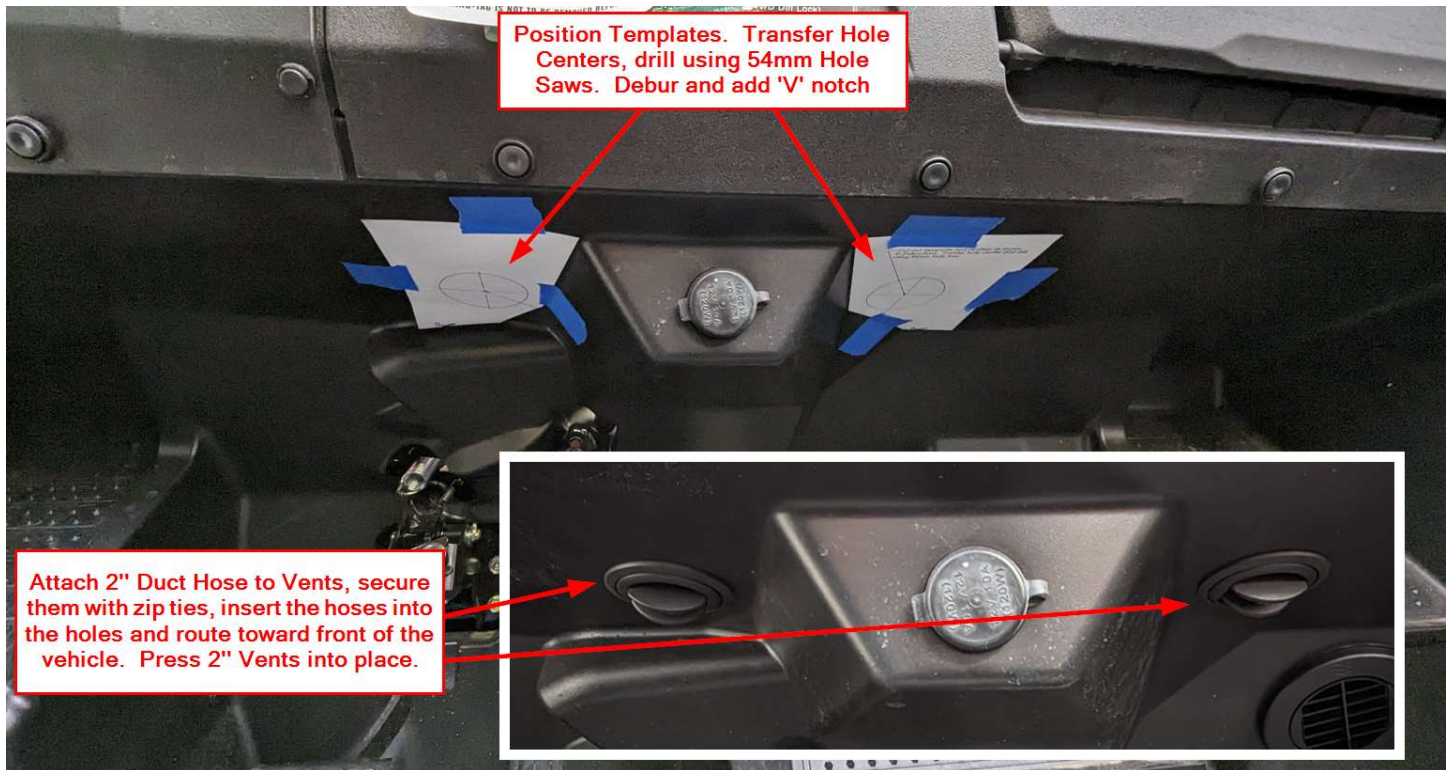
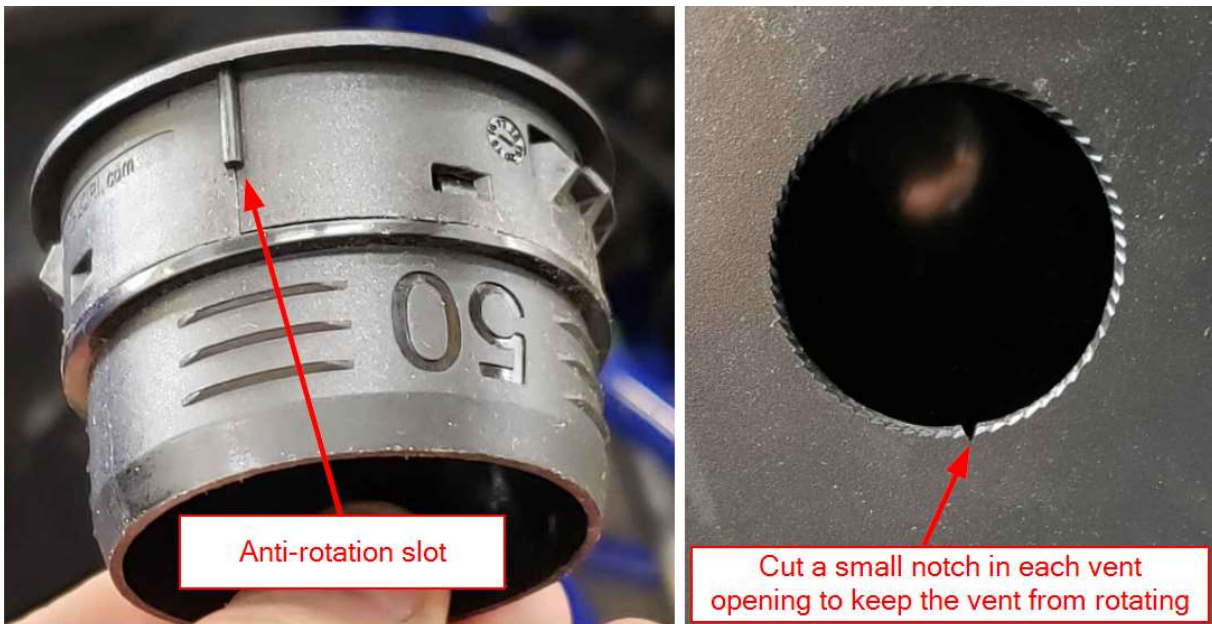

Figure 3
Figure 4
- a. From the back of the instruction manual, cut out the Passenger and Driver side lower vent templates. Position them as shown in Figure 3. Transfer the hole centers on the template to the Firewall, use the included 54mm Hole Saw to drill the holes. Deburr as necessary. **Installation Tip: After cutting the 54mm vent holes, use a razor blade to cut a small "V" shaped notch anywhere along the hole. Each 2" Vent has an anti-rotation notch molded into it, fit the notch into the 'V' groove for easier install. See Figure 4.**